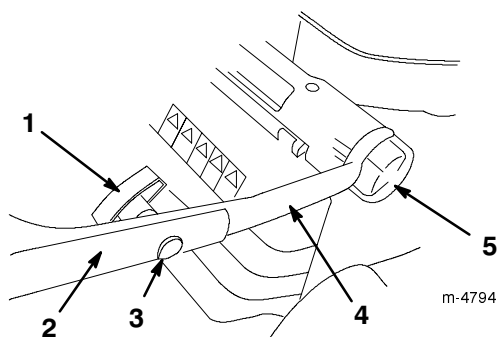

Figure 2
1. Loosen the handle height adjustment knobs and rotate the lower handle toward the rear of the lawn mower until it seats into one of the handle height settings as shown in Figure 2. To set the handle height, refer to Adjusting the Handle Height on page 6.
3. Install the upper handle section onto the lower handle section with the oval-head bolts and the handle knobs as shown in Figure 2. **Tighten the handle knobs securely.**
You can set the handle to three height settings: high, medium, and low (Fig. 2). Select the handle height setting most comfortable for you.